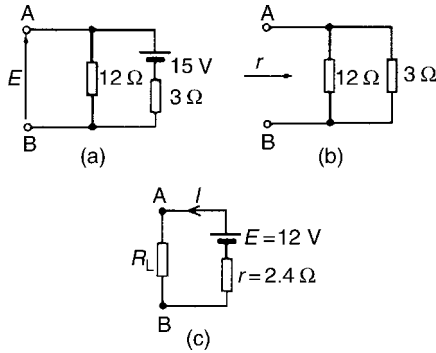

Figure 13.86
- Resistance  $R_L$  is removed from the circuit as shown in Fig. 13.86(a)
- Removing the source of e.m.f. gives the circuit of Fig. 13.86(b), from which, resistance,
(iv) The equivalent Thévenin's circuit supplying terminals AB is shown in Fig. 13.86(c), from which,